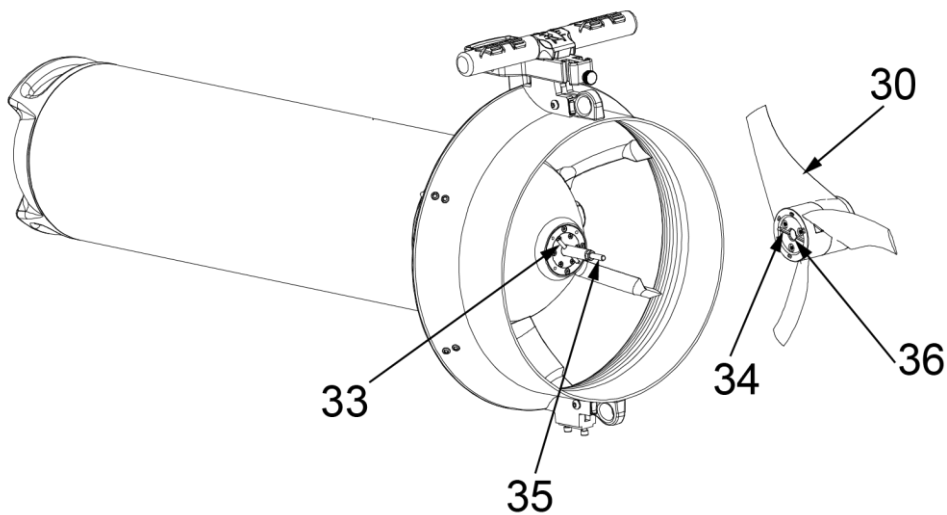

Fig 36 - Propeller insertion
Insert the propeller (hole 36 - **Fig 36 - on p. 43**) in motor shaft of the Scooter (35), turn the propeller (clockwise) until the pin (33) matches the seat (34) propeller. When you hear a click, the propeller will stop turning. Continue by turning (**CLOCKWISE**) the switch (6 - Fig.1) with the finger only, **WITHOUT FORCING**.